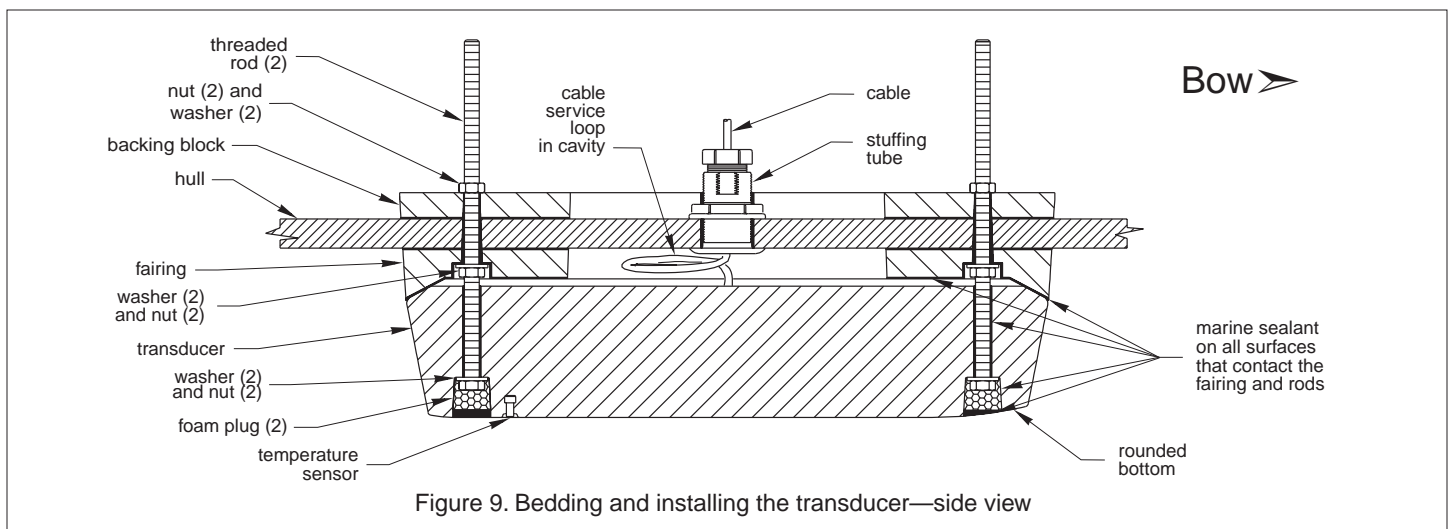

Figure 9. Bedding and installing the transducer—side view
1. Apply a 2mm (1/16") thick layer of marine sealant to the surface of the transducer that will contact the fairing. Apply a 2mm (1/16") thick layer of marine sealant in the recess for the washer and nut *Be sure* there is sealant on the threaded rods (see Figure 9).
2. Thread the transducer cable through the stuffing tube. Allow a service loop of 25cm (10") of cable within the cavity of the fairing (see Figures 9 and 10).
- Slide the transducer onto the threaded rods *being sure* the rounded bottom is facing forward toward the bow and the temperature sensor is aft. Seat the transducer firmly within the recess in the fairing. Secure the transducer in place by applying a washer and a nut to each threaded rod (see Figure 9). Tighten both nuts with a torque wrench using a force not exceeding 12N-m (10ft.-lb.). *Be sure the rods extend a minimum of 3 threads beyond the nut after being tightened.*